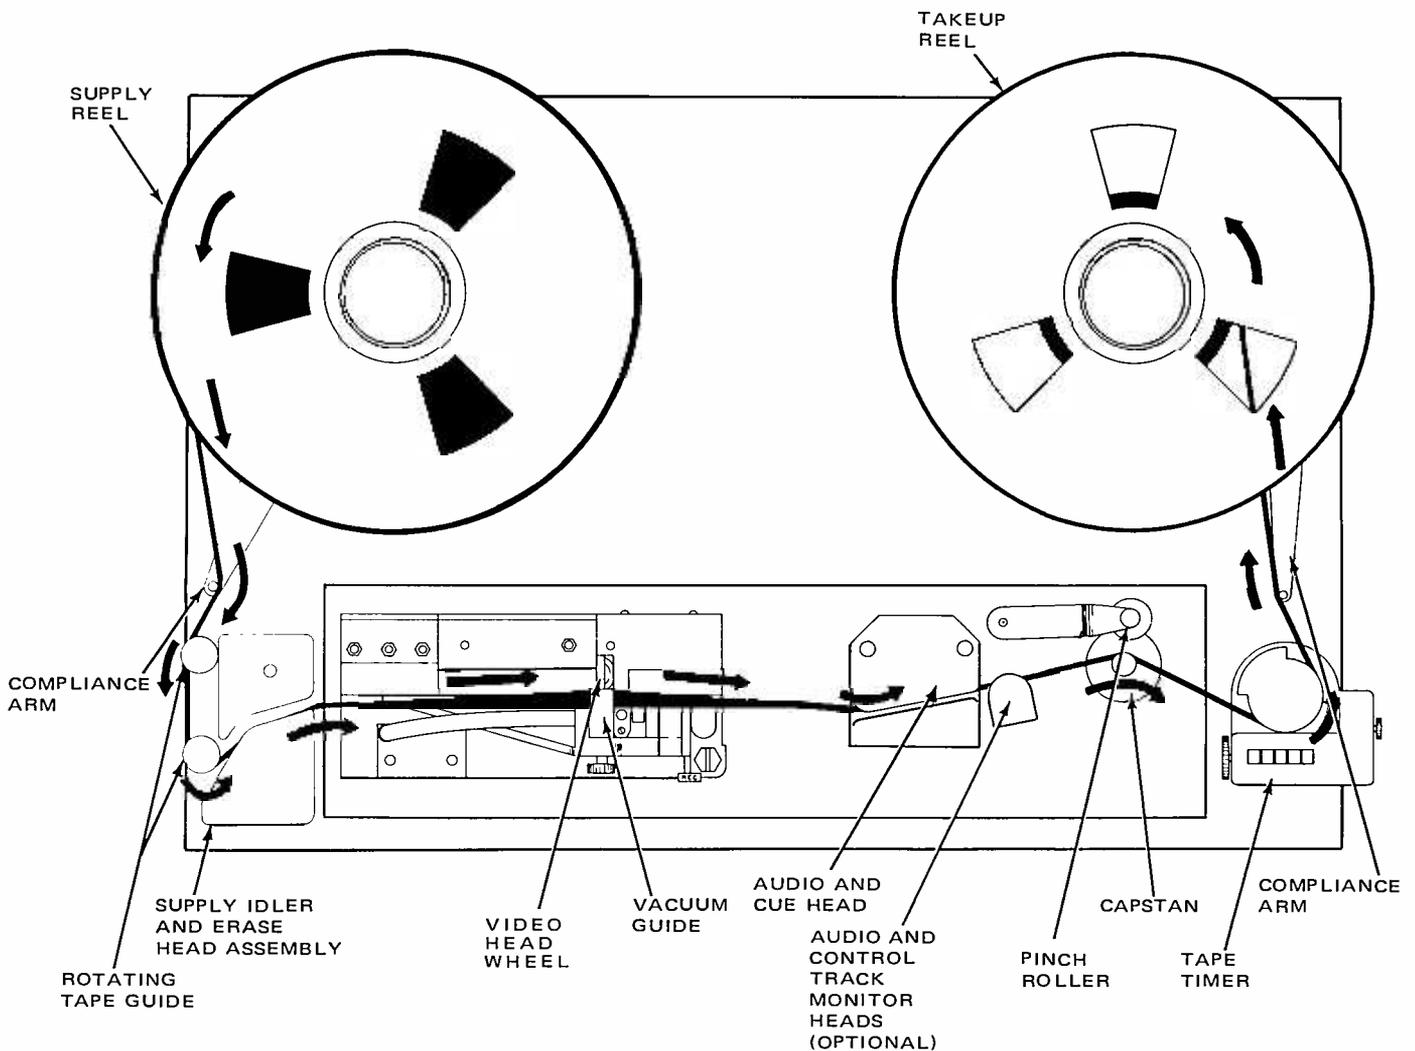

Figure 3-4. Tape Threading Path
3. Place the reel of tape on the supply reel hub; orient the reel so that the tape emerges from the left side of the reel (see Figure 3-4).